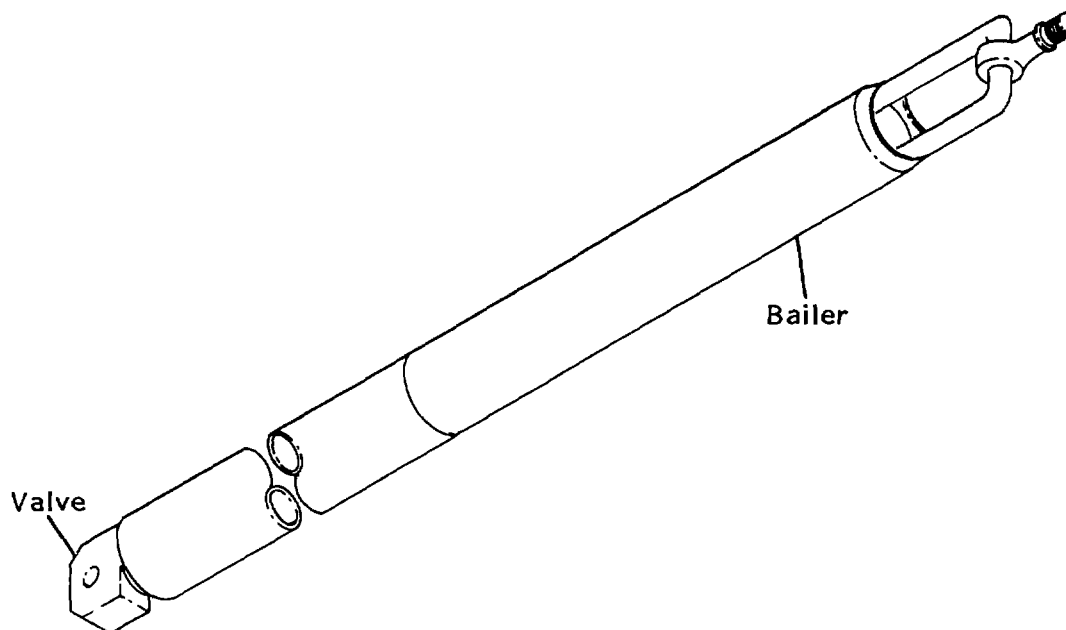

Figure 2-46. Bailer
- a. Bailing the Hole. When there is an accumulation of dirt or sand in the well, use a bailer to remove this accumulation (see figure 2-46).
- (1) Attach the third drum line to the bailer.
- (2) Operate the drum to lift the bailer, then lower it into the hole. Do not allow the bailer to fall too fast, and slow down when approaching the bottom of the hole.
- (3) When the bailer contacts the bottom of the hole, the valve at the base of the bailer opens, and the bailer fills with sand, dirt, and water. Tie a piece of twine or cord on the cable to mark the depth at which the bailer stops.
- (4) Raise the bailer. As it lifts off the bottom the valve closes, trapping the sand and dirt inside. Continue raising, slowing up as the bailer nears the surface, until the bailer is out of the hole. Lower the bailer to the ground away from the rig. When it contacts the ground, the bailer valve opens and discharges the bailer's contents.